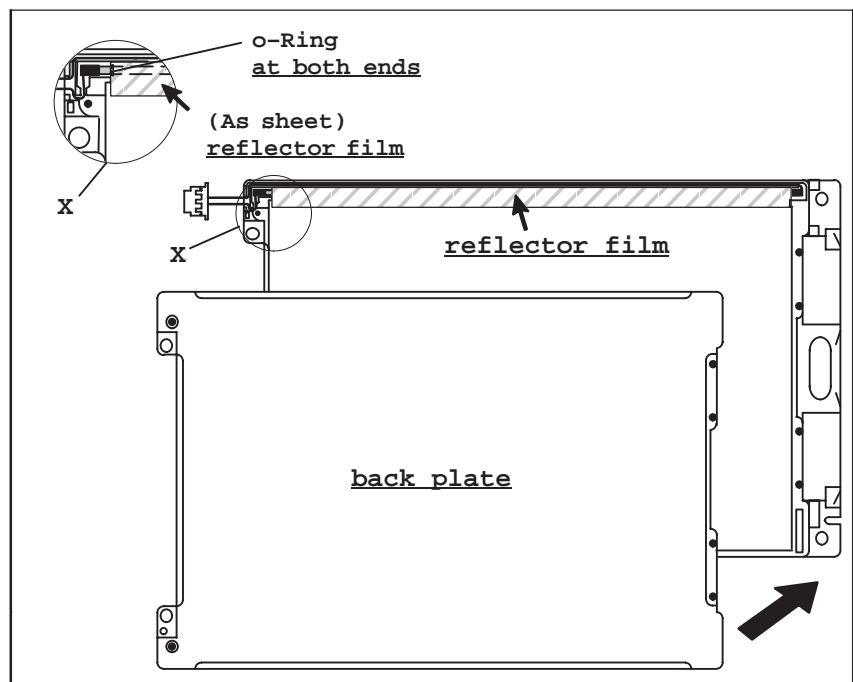

Figure 1-18 Reassembly
- Reassemble the rear panel of the display (see Figure 1-18) and replace the 6 screws.